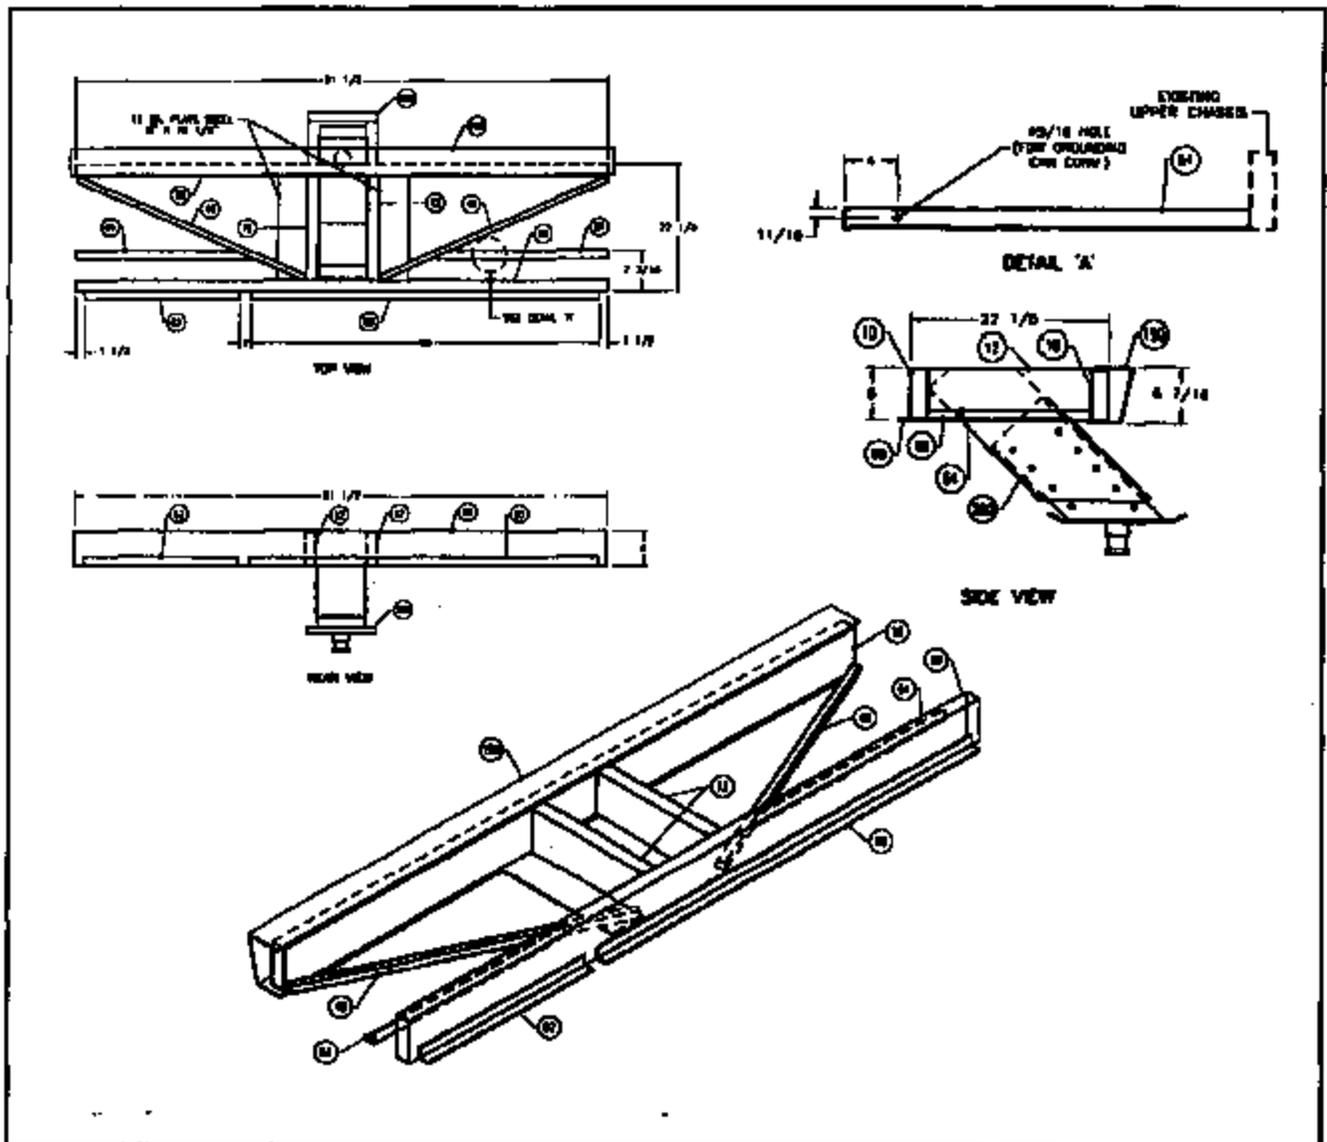

Figure 7
Replacing Crossmembers and Pin Box (see Figure 7) 99V-294 (24)